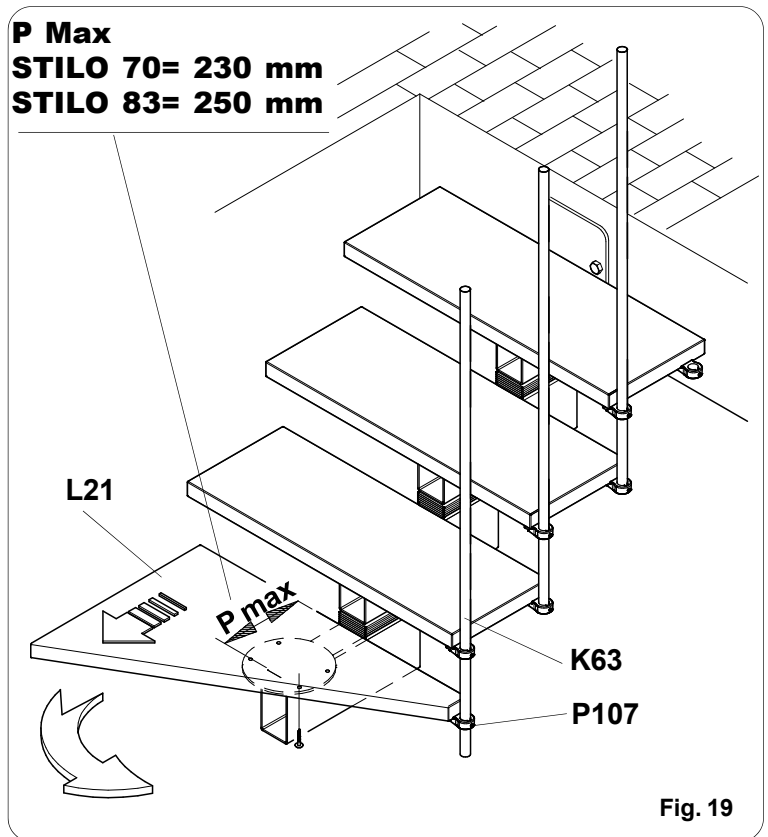

Fig. 19
- Continue assembling the following steps according to the same procedure until the first **L21** is achieved where the staircase starts turning. Mount the **P107** support on the **L21** step by using the pre-existing holes and make sure to insert the square nut with relevant security dowel as illustrated above. Inset a **K63** banister column into the top step support and lock it temporarily in the position illustrated in fig. 19. Check that the module is positioned in the **P Max** tread position, then place the **L21** step as shown in fig.19 and lock it by means of **B205**. Adjust the step in the maximum tread position, i.e. all the way in the front, until the most advanced position is achieved. (fig. 19) Lock the module in the position achieved and make sure that during the operation the spacer package remains aligned with the module, including the vertical direction of the column.